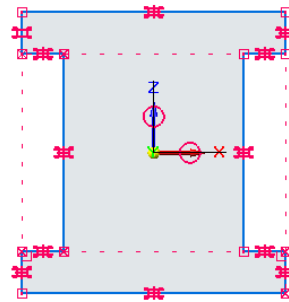

Figure 3-35 Profile after adding relationships
13. Press the ESC key to exit the current tool. The sketch after adding all relationships is shown in Figure 3-35. Notice that all the relationships handles are displayed on the sketch.